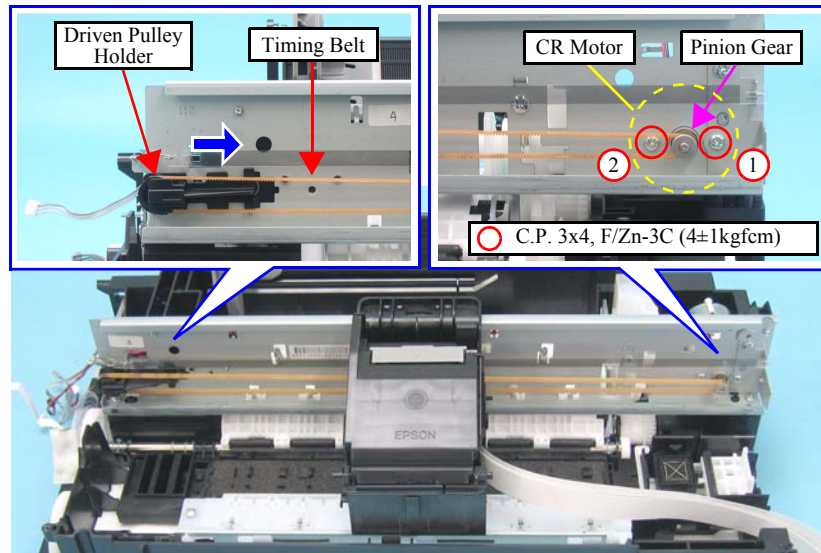

Figure 4-77. Removing the CR Motor (2)
- Tighten the screws in the order given in Figure 4-77.